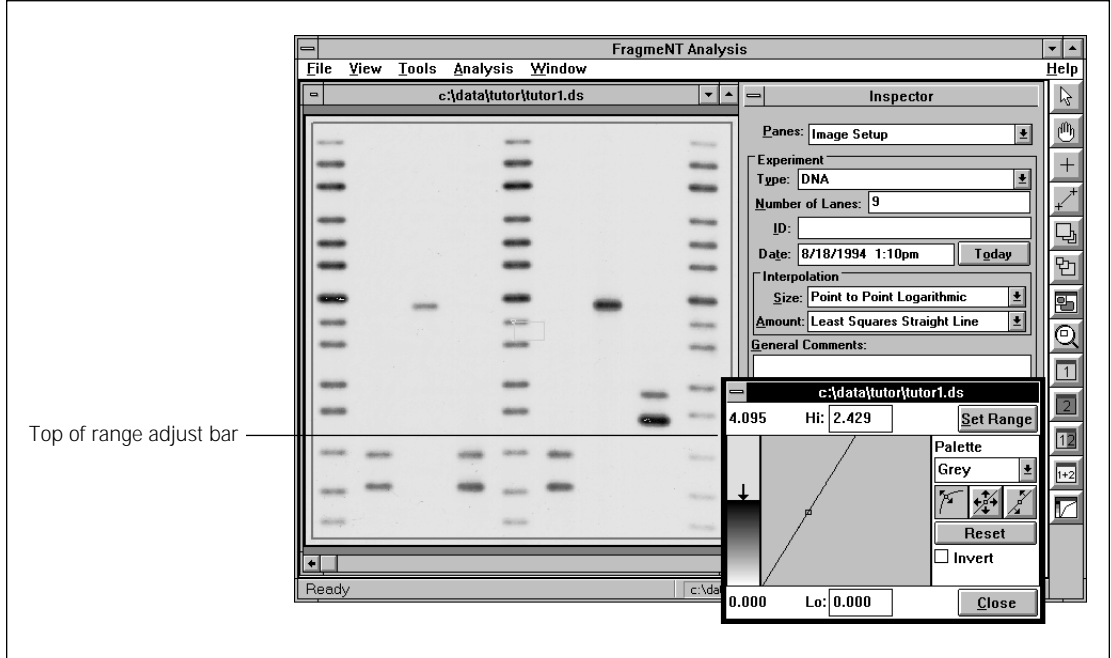

Figure 3-6. Adjusting the image display.
- The Image Setup inspector appears (figure 3-6). If you created an Experiment Form, the settings you selected for Number of Lanes, Experiment Type, Interpolation, and other information are displayed in the inspector.
4. Double-click **tutor1.ds**. A progress bar appears, followed by the image and the Image Setup inspector. The Number of Lanes, Experiment Type, and Interpolation parameters specified in the Experiment Form appear in the inspector (figure 3-6).
If the image is difficult to see, you can adjust the grey-scale range or invert the grey tones of the image using the **Grey/Color Adjust** window (figure 3-6), available from the View menu or toolbar (). Section 7.6 explains how to use the Grey/Color Adjust window.
1. Click the **Grey/Color Adjust** toolbar button () to open the Grey/Color Adjust window (figure 3-6).
3. Move the pointer to the top of the range adjust bar (figure 3-6), drag the pointer down until the middle of the darkest bands begin to appear green, and then release the mouse button. The bands appear darker.